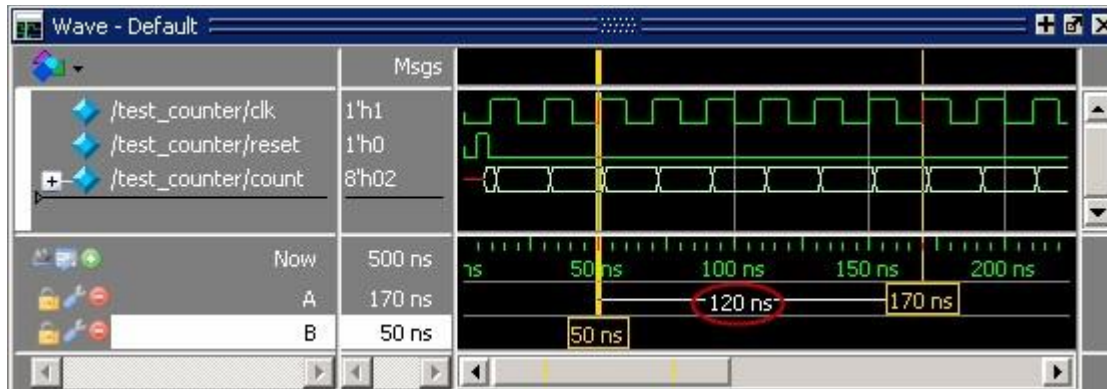

Figure 32
- d. Drag cursor *B* and watch the interval measurement change dynamically (Figure 32).